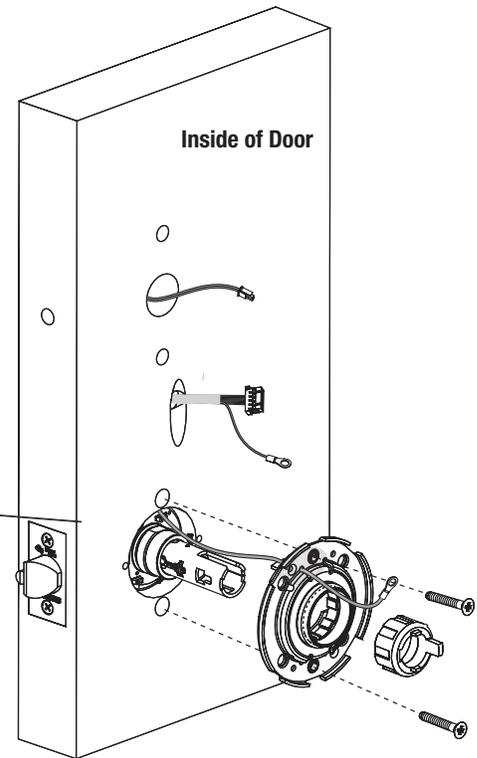

Fig. 8A
2. Position ground lug between (top) #10-32x1-1/4" through-bolt and rose assembly (Fig. 8A).